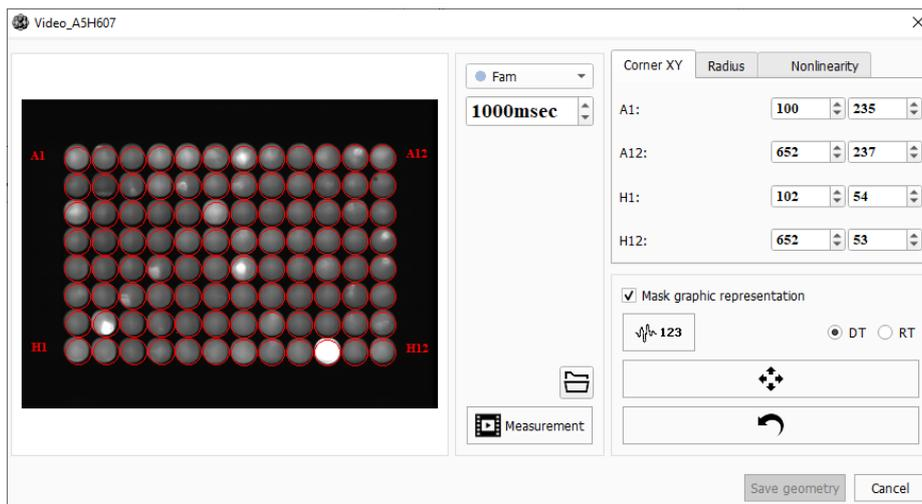

Figure 112 – Measurement result
6. Analyze the resulting image (fig. 112).